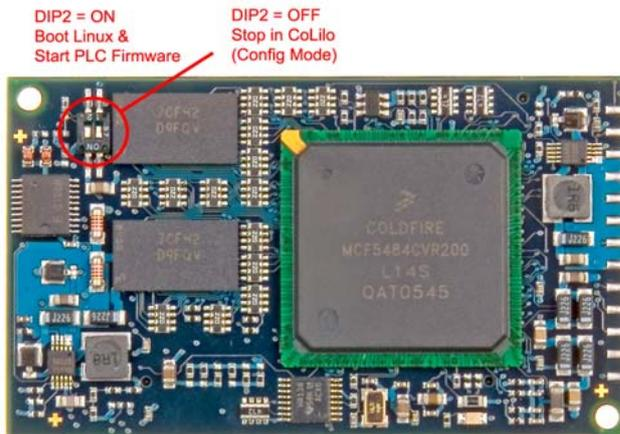

Figure 6: Positioning and meaning of DIP-Switch 2 on the ECUcore-5484
- (1) **DIP2 = "Off" and /BOOT = "High"**      DIP2: see Figure 6, /BOOT: see Manual L-1177,
Figure 6 shows the positioning and meaning of DIP-Switch 2 on the ECUcore-5484. This DIP-Switch might be hard to access if the module is built in. Thus, the Portpin of the processor that is connected to the switch is available as connection "/BOOT" on the pin connector of the ECUcore-5484 (see Hardware Manual ECUcore-5484, Manual no.: L-1177).